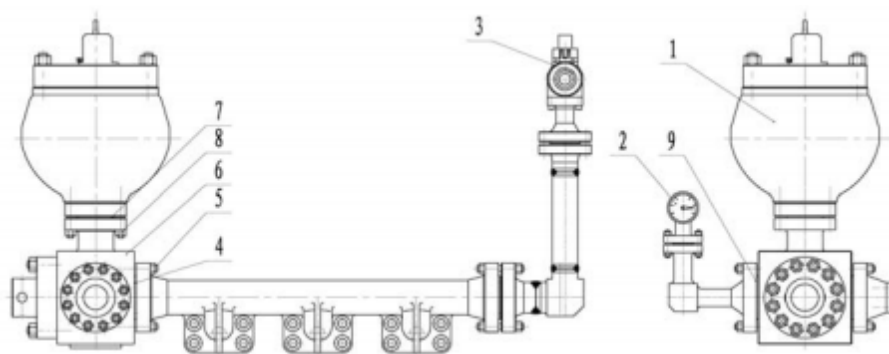

Fig. 11 Auxiliary pipeline
The auxiliary pipe is shown in Fig. 11. Can be installed in the discharge pipe on the opposite side of the discharge. This pipe can be connected with WY75-52 pulsation dampener (1), shearpin safety valve (3) and pressure gauge (2).